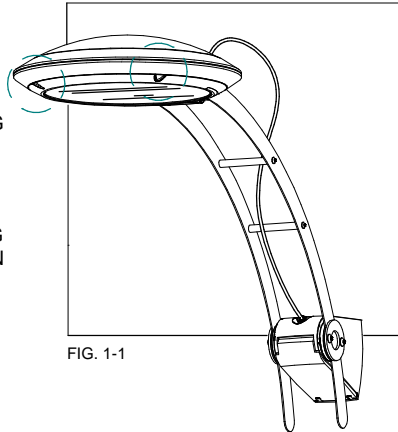

FIG. 1-1
2. OPEN LOWER HALF OF THE HOUSING BY INSERTING FINGERS INTO SLOTS AND PULLING BOTH LATCHES BACK SIMULTANEOUSLY. (FIG. 1-1)/(FIG. 1-1A)